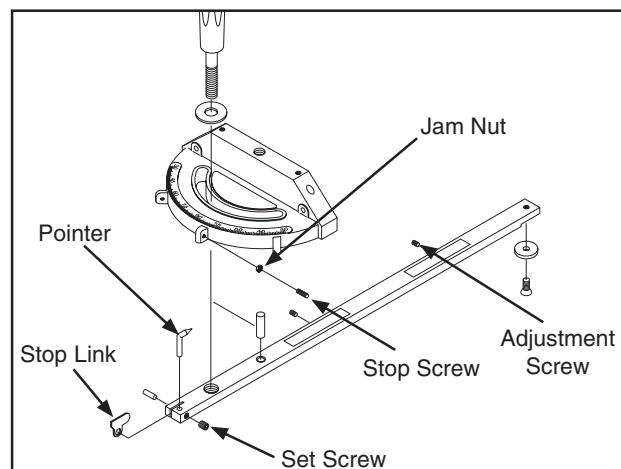

Figure 81. Miter gauge diagram.
3. With the stop link in the up position, loosen the jam nut and adjust the stop screw until it is seated against the stop link (see **Figure 81** for part locations).
The miter bar can be adjusted so that it fits tighter in the miter slot. To do this, turn the adjustment set screw shown in **Figure 81** clockwise in small increments and test fit between adjustments until it fits your expectations.